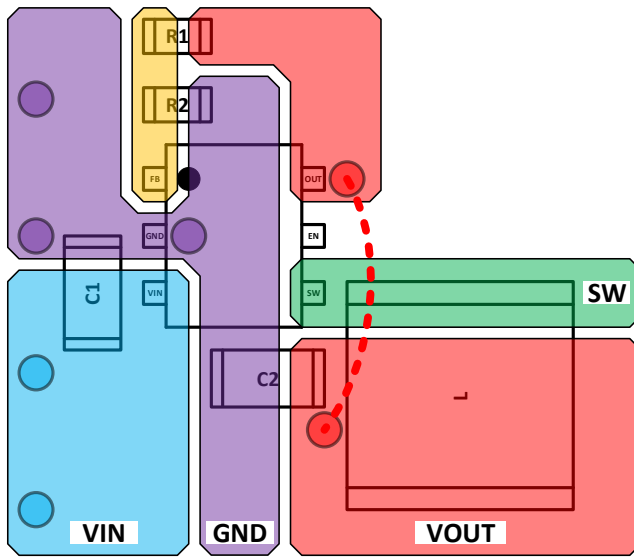

Figure 42. Recommended AP61300 PCB Layout
9. See Figure 42 and Figure 43 for more details.